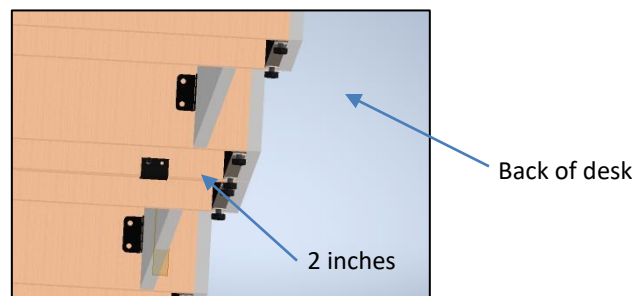

Figure 3
3. Position another U-bracket 2" from the back of the units so that it is encasing both end panels. Secure the bracket with the #8 x 5/8" PHP Screws (Figure 3)